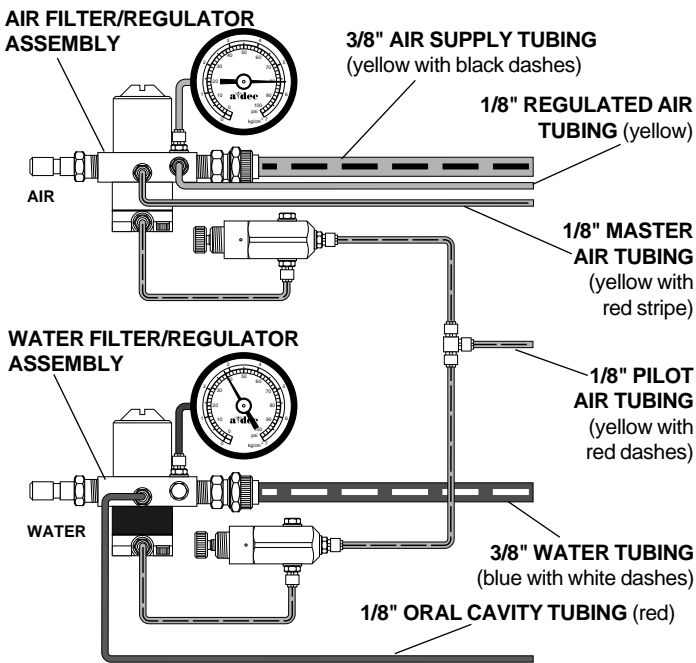

FIGURE 34 (STANDARD PLUMBING)
- Following the procedure above, connect the filter/regulators to the umbilical (see Figures 34 for standard plumbing or 35 for standard plumbing with self-contained water).